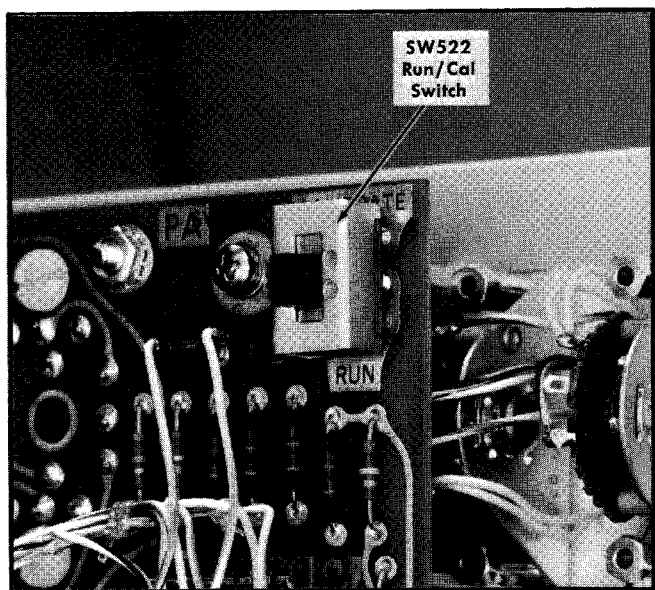

Fig. 6-1. Location of Run/Calibrate switch on the Counter circuit board.
- Set the Type 230 Run/Calibrate switch to Calibrate (located on counter circuit board; Fig. 6-1).
- b. Set the Type 230 Run/Calibrate switch to Calibrate. (located on Counter Circuit board, Fig. 6-1).